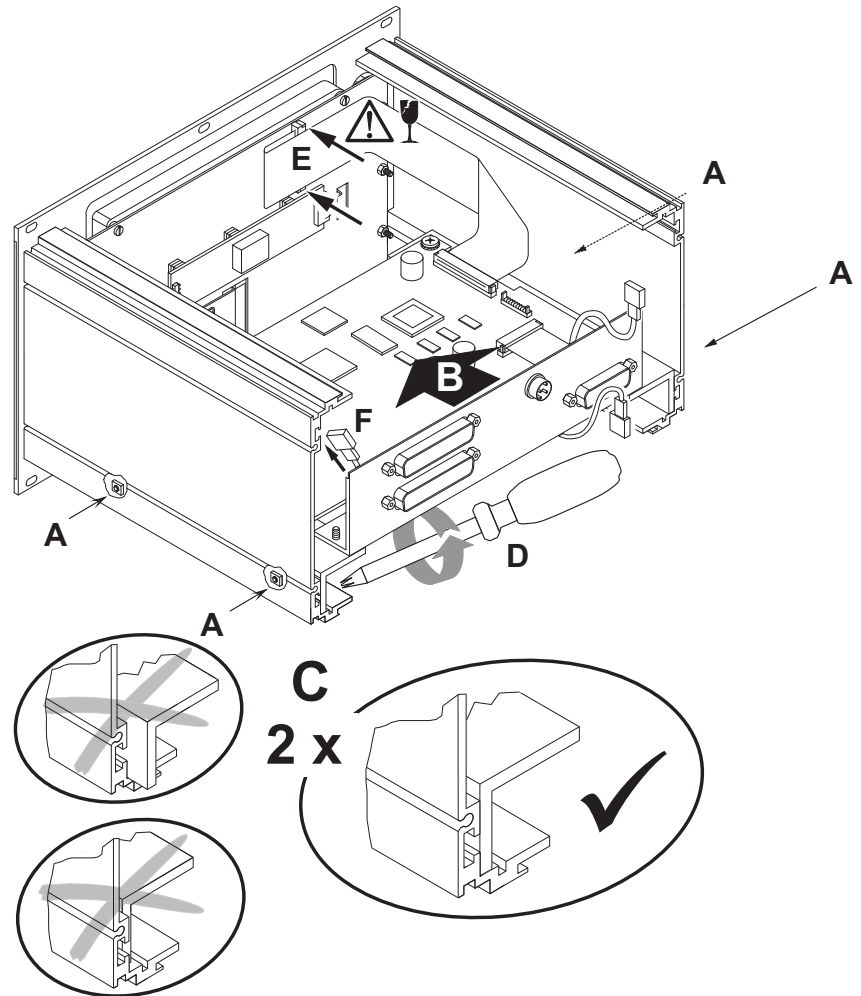

Fig. 8-8: Fastening the main pcb unit and connecting the display cable
11. When all the square nuts are fed to its tracks (A) move on the main pcb unit inside as far as the angle profiles are flushed with the side panels (C). The angle profiles have not to be overlapped or to be pushed too far inside (see Fig. 8-8, C)! Fasten from below the fastening screws of the angle profiles (D). Reconnect the connecting cable to the display pcb (E). Carefully reconnect the ground cable to its socket on the left side panel (F). Avoid damage of the flat cable and the locker because of canting. (Fig. 8-8)